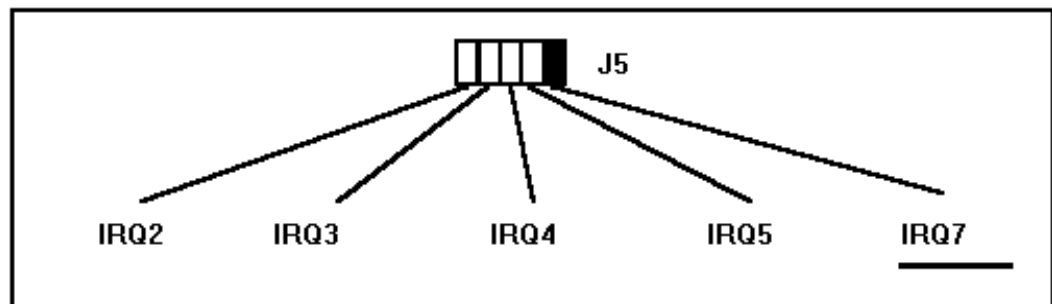

Figure 18: Jumper J5 - IRQ Setting
- Figure 18 shows the possible settings for the J5 jumpers and the corresponding addresses. Note, however, it is unlikely that you will need to change the interrupt number.